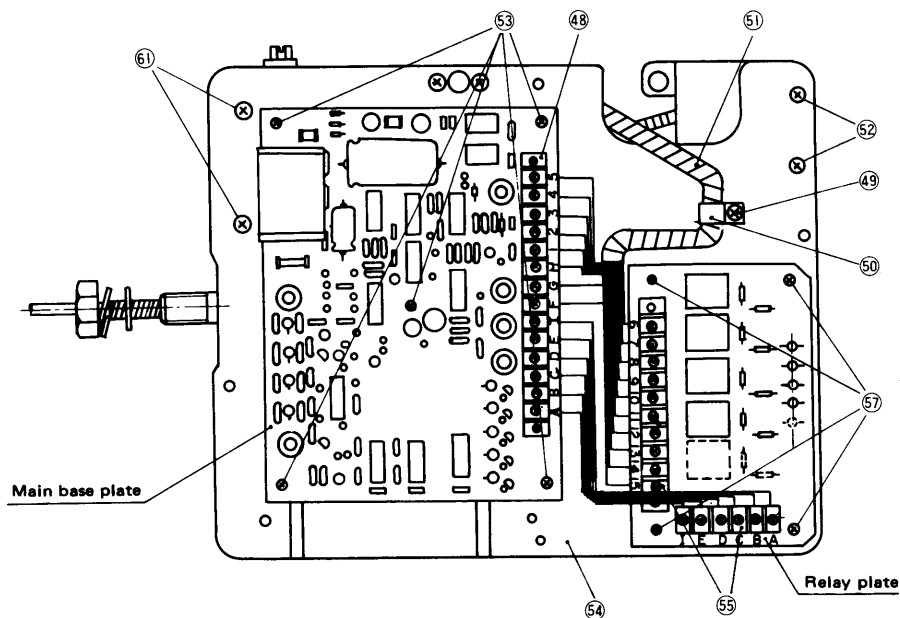

Fig. 4 Internal device assembly
- (2) Remove the internal device assembly. Loosen four hexagonal nuts (11) and screws (46) and remove the internal device assembly from the main body (1) and turn it back. Then it looks as shown in Fig. 4.
(2) Measuring resistance of the volume setter
- Adjust the volume setter as shown in Fig. 4 in accordance with Article 4.1.
- Remove the lead wires (3 pcs, F. G. H.) which are laid from the volume setter from the terminal (48) (13P) on the terminal strip of the main base plate and measure resistance between G and H of the lead wires.
(3) Replacing points
- From the state of the volume setter as shown in Fig. 4, loosen screw (49), remove power source plug (50), remove the spiral tube (51) from the wires. Then remove two screw bolts (52) and the volume setter can be removed from the base (54).
(1) Replacing standards
(2) Replacing points
- Remove the wires (13 pcs Nos A ~ H, 1 ~ 5) from the terminal strip (48) on the main base plate.
- Remove 5 screws (53) to remove the base (54) from the main base plate, so replace it with new one.
- Adjust it as shown in Fig. 4 in accordance with Article 4.1.
- Remove the wires (13 pcs No. A ~ E, 6 ~ 13) from the terminal strip (55) on the relay base plate.
- Loosen four screws (57), and the relay base plate can be removed from the base (54). So replace the relay base plate with a new one.
(2) Replacing method
- Take out the internal assembly as stated in Article 4.1 and turn it inside out, which is shown in Fig. 4.
- Loosen two screw bolts (61) to remove the feeler tube – element and replace it with new one.